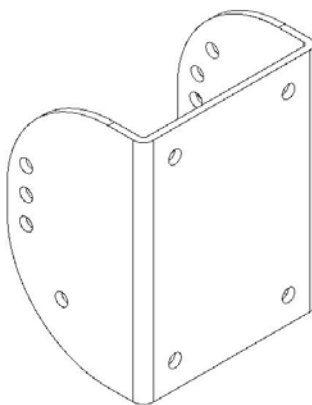

Figure 2
The loudspeaker bracket must be removed from the main bracket before mounting the pole bracket to the pole. The loudspeaker bracket is shown separately in Figure 2 below.
Mount the pole mount section (see Figure 4a below) of the bracket to the pole at the desired height on the pole. The loudspeaker bracket shown in Figure 2 should be removed prior to hanging the pole mount section. The bracket is mounted to the pole using BAND-IT stainless steel bands. **DO NOT SUSTITUTE** bands of other material or other widths! **There are SIX locations on the pole bracket for bands. ALL SIX LOCATIONS MUST BE USED.**
1. Next, the loudspeaker bracket (Figure 2) should be mounted to the loudspeaker (ONE SYSTEMS 112/HTH, 212/HC, 312/HC, 118/HSB or CFA-2/HTH only using the supplied M10 stainless steel bolts and washers). DO NOT SUBSTITUTE ANY PARTS. **NOTE: See Appendix 2 at the end of this document, if the 118/HSB is being used!**